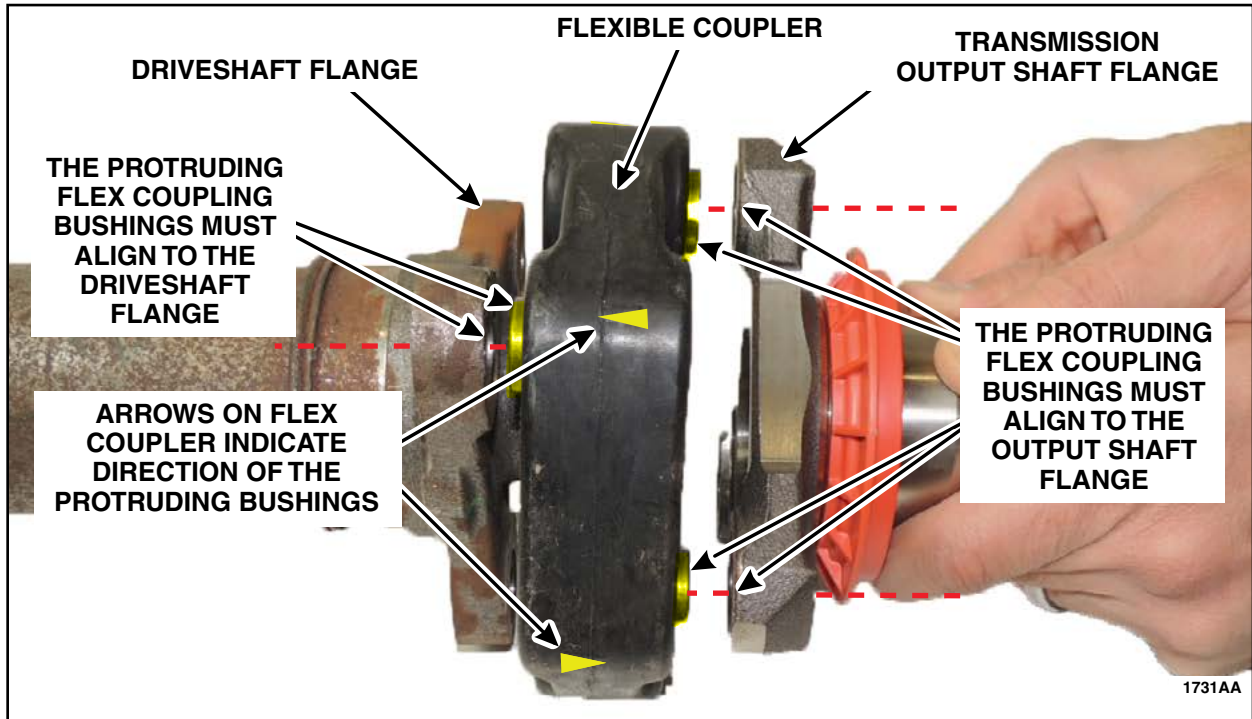

FIGURE 11
NOTE: There are six (6) bushings in the coupler. Three (3) bushings protrude forward and three (3) protrude rearward and they must interlock with each flange. See Figure 11.